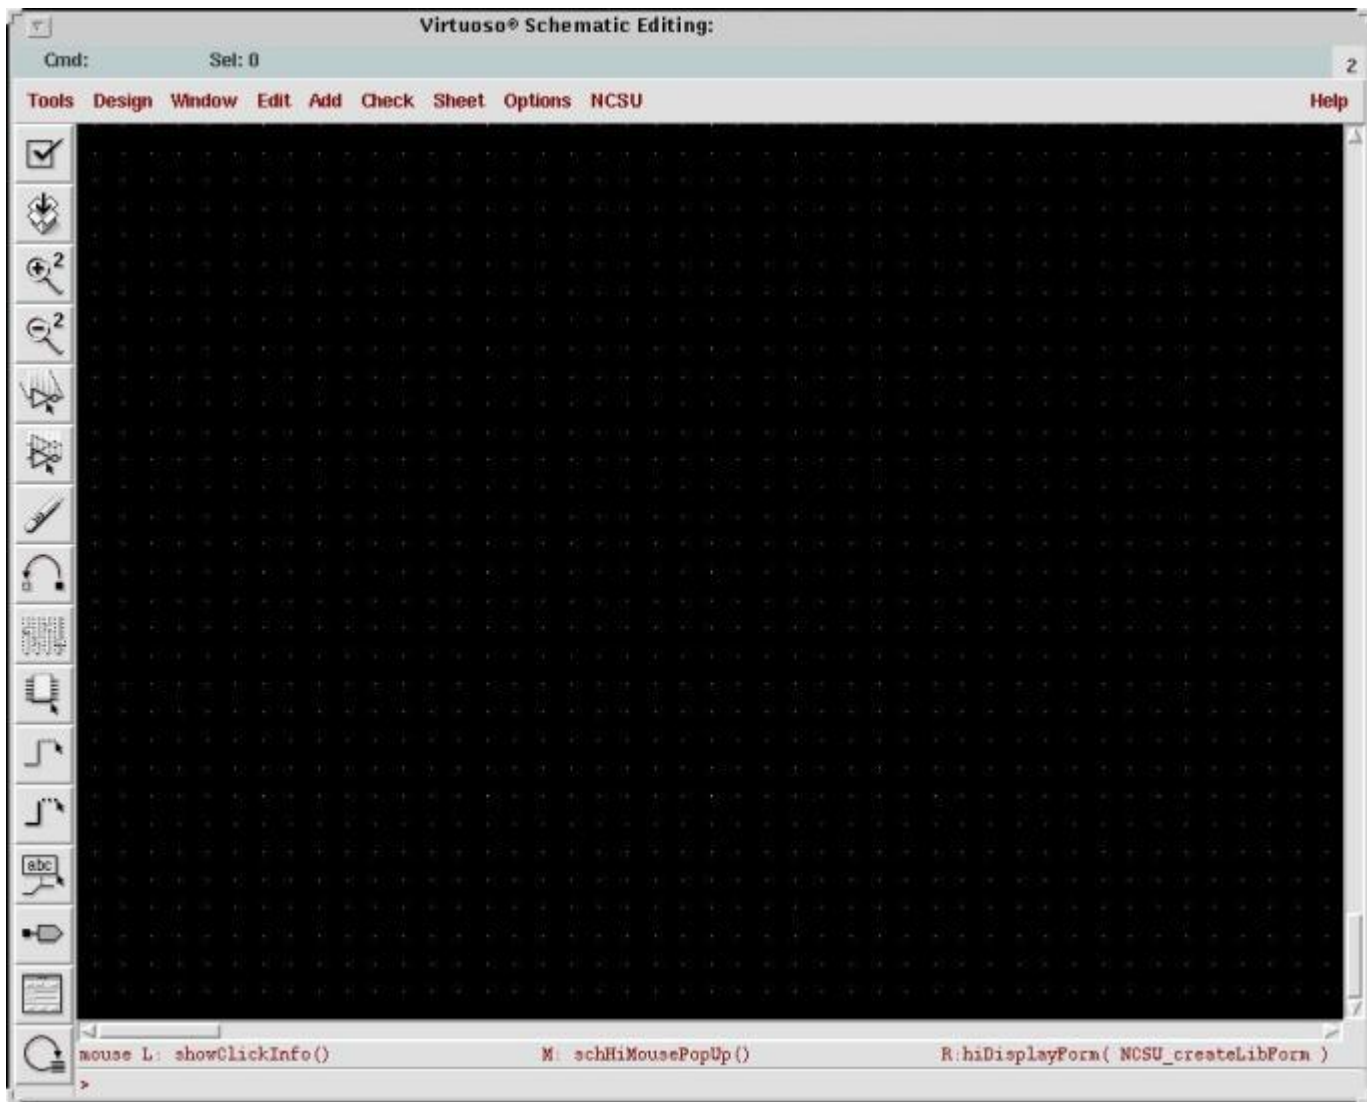

Figure 4: Virtuoso Schematic Editing Window
- 3) Now we are ready to layout the schematic design of the Inverter. After creating the new cell, a window opens in which we will create our schematic, Figure 4. This window is the Virtuoso Schematic Editing window.